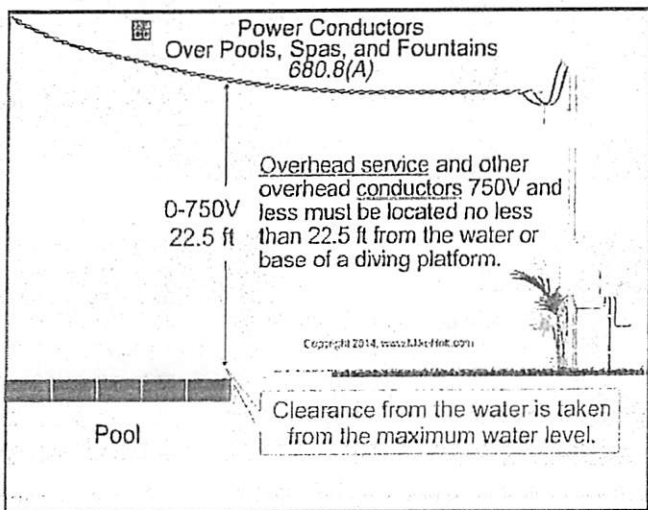

Figure 680-11
(A) Overhead Power Conductors. Permanently installed swimming pools, storable pools, outdoor spas, outdoor hot tubs, fountains, diving structures, observation stands, towers, or platforms near overhead service conductors and other overhead conductors must not be placed within the clearances contained in Table 680.8(A). Figure 680-11